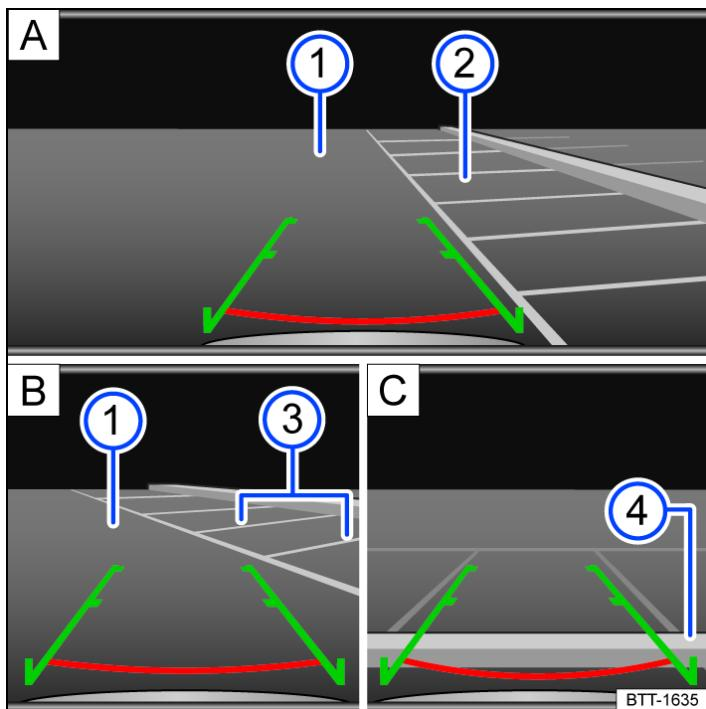

Fig. 1 Infotainment system: parking using the rear view camera system.
- (A) Choose parking space.
- (B) Drive towards the selected parking space.
- (C) Align the vehicle in the parking space.
1. Position the vehicle in front of the parking space → Fig. 1 (A) 2.